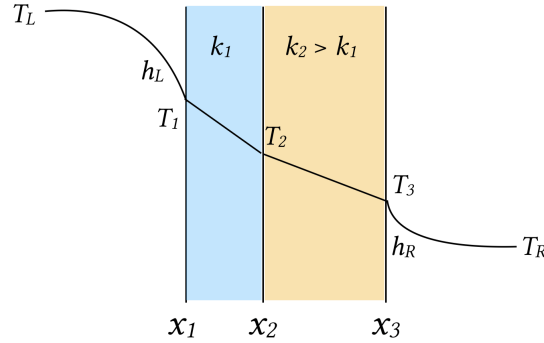

Figure 2: Steady-state temperature profile in a two-component wall between two fluids.
Imagine a composite wall between two fluids that can transfer heat by convection to or from the wall surfaces, as shown in Figure 2, and assume that the temperatures of the fluids far away from the walls are constant at T_L on the left and T_R on the right. The whole system can be treated as a series composite to define the *effective heat transfer coefficient*, U , by just adding the two terms for the fluids to Eq. (4),
About halfway down the page you will see a calculator right below a figure similar to Figure 2. You will use this calculator to complete some parts of this exercise [Note: the calculator uses different symbols for some of the parameters than what were used in class or in this lab sheet.]